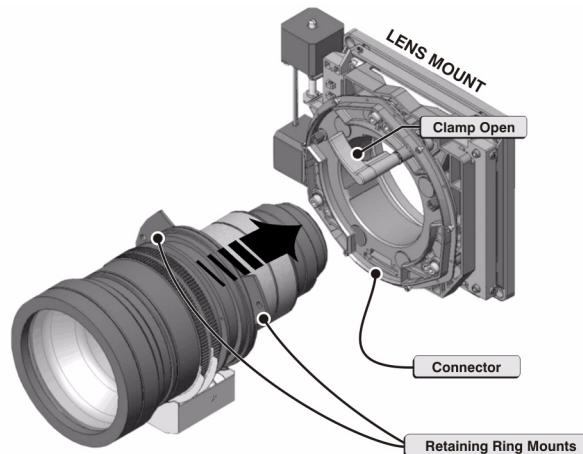

FIGURE 3-5 INSERT LENS
1. Turn the lens clamp to the OPEN position (**Figure 3-5**).
4. Fully insert the assembly straight into the lens mount opening without turning (**Figure 3-5**). When you hear a clicking sound, it indicates the lens has made contact with the magnets. These magnetic guides ensure the lens is properly seated inside the mount, that the aperture is orientated correctly and that the connector for motorized zoom and focus is properly connected.